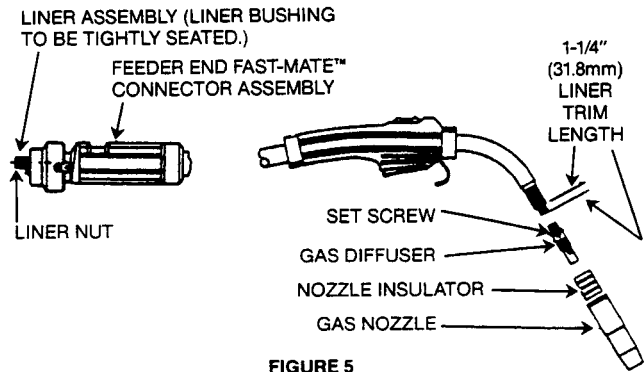

FIGURE 5
6. With the gas nozzle and nozzle insulator removed from the gun tube, be sure the cable is straight, and then trim the liner to the length shown in Figure 5. Remove any burrs from the end of the liner.